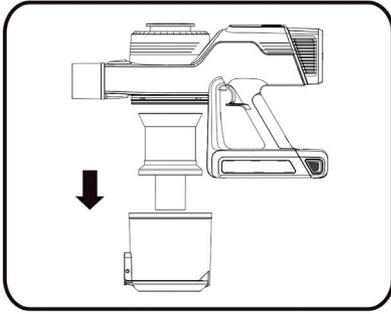

Figure 11
- Rotate and remove the dust container from the main body and then rotate and remove the filter (Figure 11)